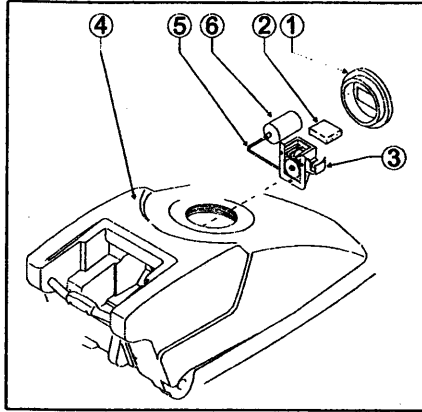

Fig. 15
**While washing the recovery tank never remove the suction filter (fig. 15, ref. 2) from its seat and never direct the jet of water towards the filter itself.**
- unscrew and take off the tank cap (fig. 15, ref. 1) from the recovery tank (fig. 15, ref. 4);
- make sure that the recovery tank (fig. 15, ref. 4) is empty;
- take out the air filter (fig. 15, ref. 2) of the suction unit from the float support (fig. 15, ref. 3), which is located on the upper inner side of the recovery tank;
- check that the floating rod (fig. 15, ref. 5), which is also fixed to the support (fig. 15, ref. 3), moves freely and clean it, if necessary;